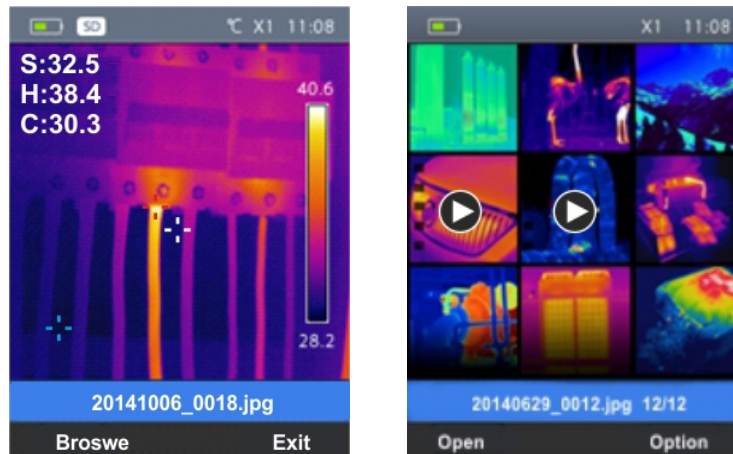

Fig. 26: Recalling an image or video on the display
1. Press the key . The instrument displays the last saved image/video (see Fig. 26 – Left side).
3. Press the key “Browse” to access the gallery of saved images/videos (see Fig. 26 – Left side).